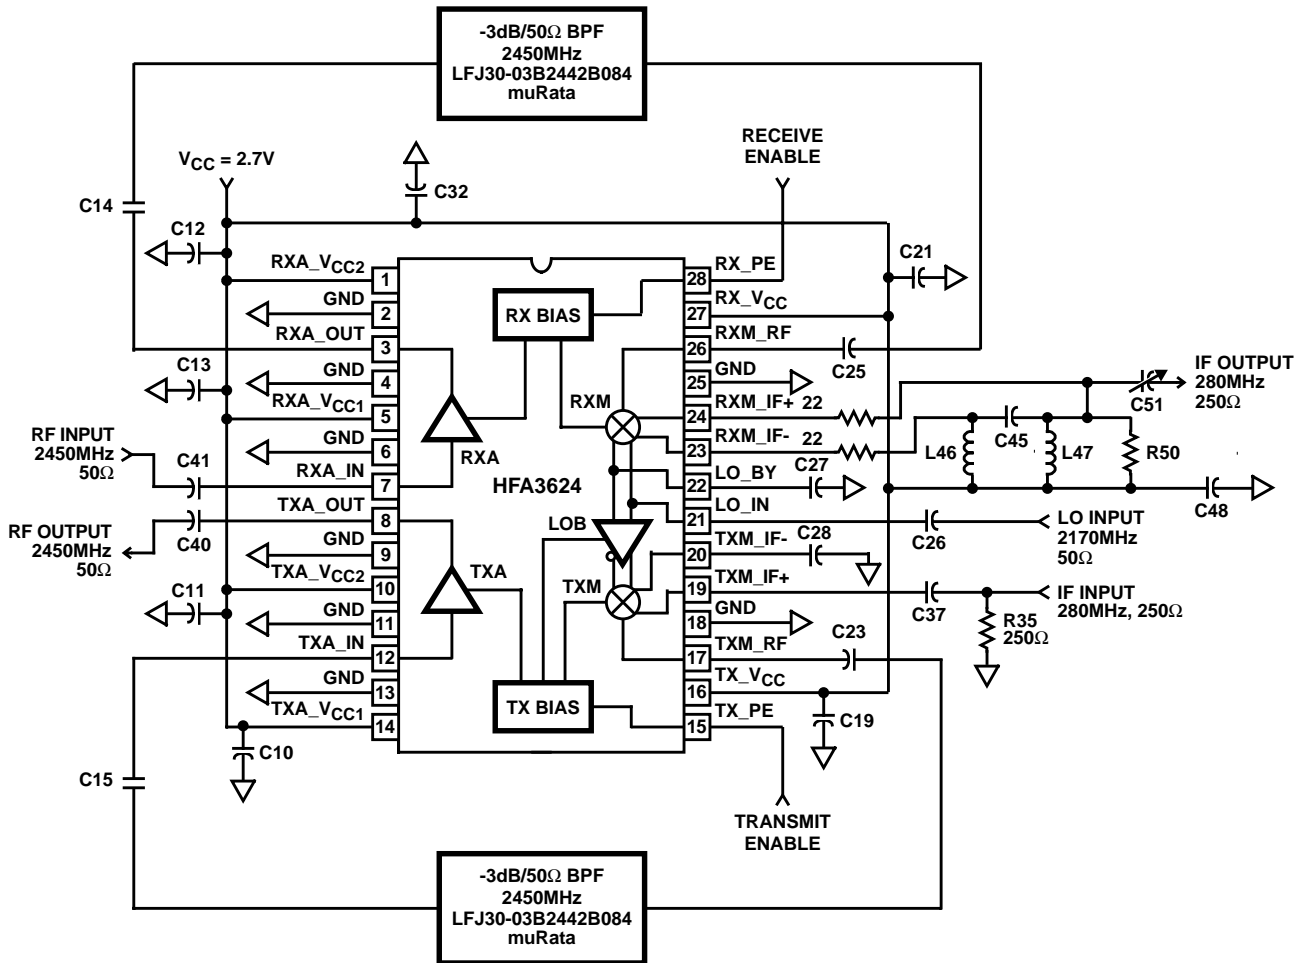

FIGURE 2. DIFFERENTIAL TO SINGLE ENDED IF OUTPUT TRANSLATION WITH  $250\Omega$  IF IMPEDANCE
- See Figure 2 for Typical Application Circuit.